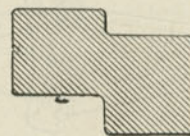

Fig. 286.
A. By having a key with an offset; its cross-section being as shown in Fig. 286.